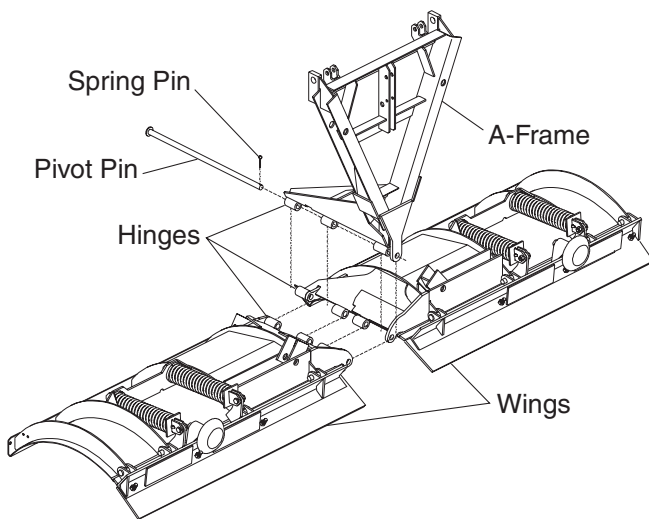

Figure 1
2. Push the blade wings together so that the holes in the hinges are aligned. (See Figure 1.)
3. Insert the A-frame hinges between the blade wings so that the holes in the A-frame hinges are aligned with the blade wing hinges. (See Figure 1.)
4. Insert the pivot pin through the hinges of the blade wings and the A-frame. (See Figure 1.)